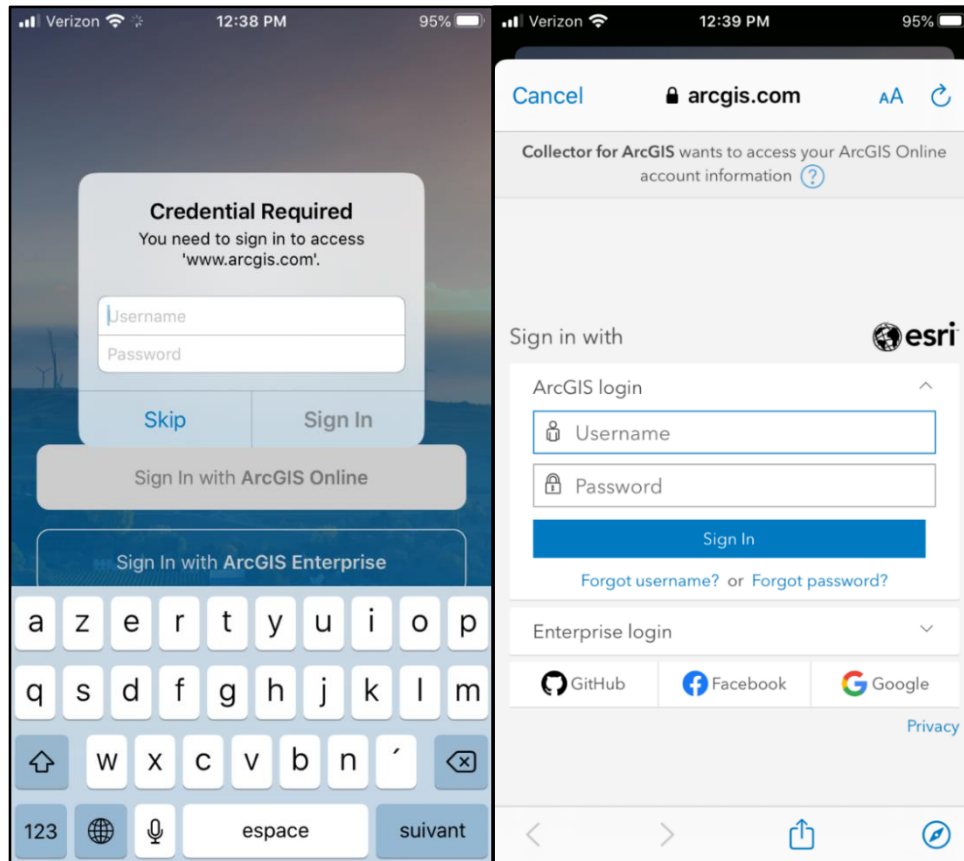

Figure 11. ArcGIS Collector Log-in page.
2. Sign-in to Collector App using your AGOL username and password and select the Drainage Network Editor map (Figure 11, below).